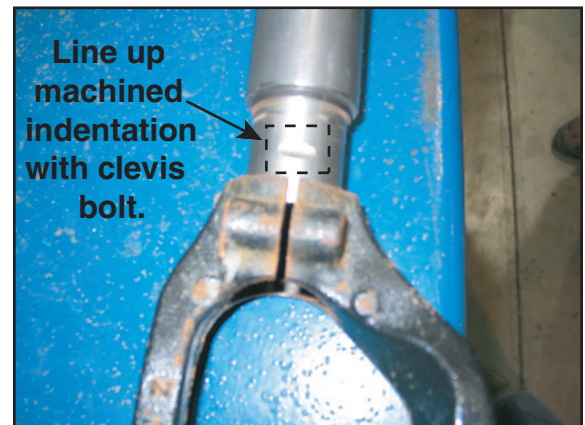

Figure 4
4. Place the O.E.M. clevis onto the lower strut (Figure 4). Make sure the machined indentation on the strut lines up with the clevis bolt (Figure 4, Figure 5). Tighten at this time.